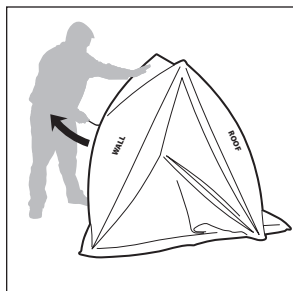

FIGURE 3
4. Lift the roof up so that you can grab any one of the hubs located in the center of each wall. Grab the tie-down rope on the eyelet and pull out as you did in step 3. **SEE FIGURE 3.**